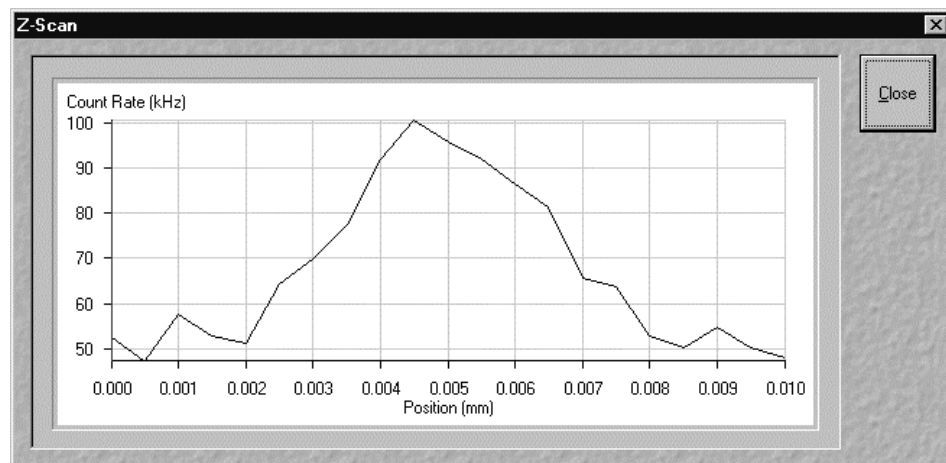

Fig. 3-58 Z-Scan result window
This means, that the focus is moved in X, Y, or Z direction over a preselected distance while the count rate in one or both of the detection channels as defined by the channel check boxes is recorded. A maximum (or minimum) in the resulting curve (Fig. 3-58) usually indicates a region of interest. The focus can be positioned to this region by a simple mouse click.
- Clicking on **Start** opens a new window showing a count rate graph (Fig. 3-58).